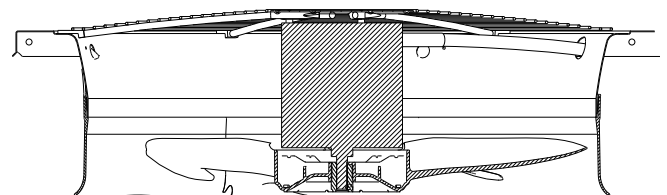

Fig. 30 — Condenser Fan Adjustment
2. Remove condenser-fan assembly (grille, motor, and fan). See Fig. 30.